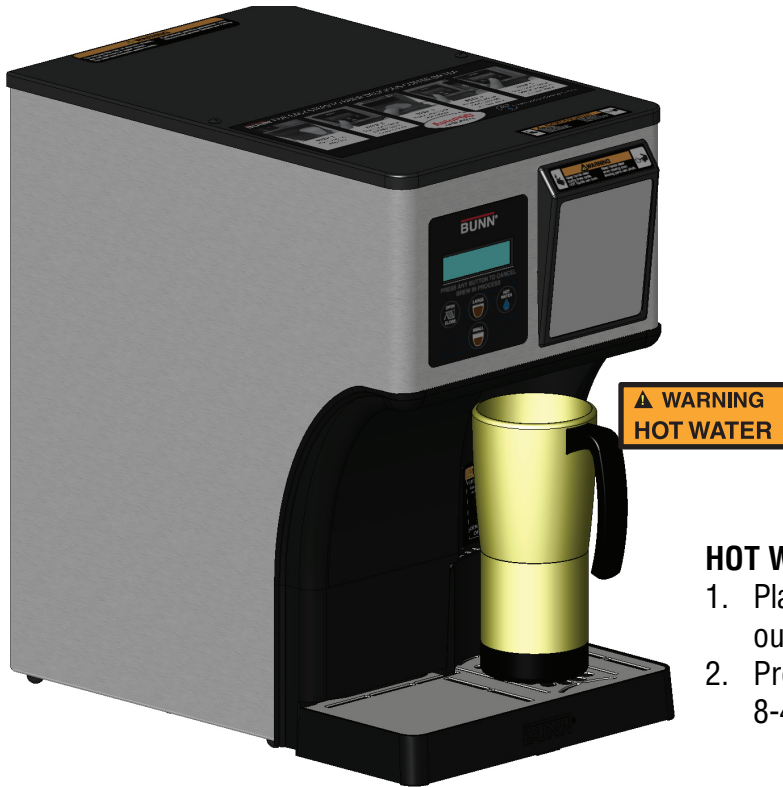
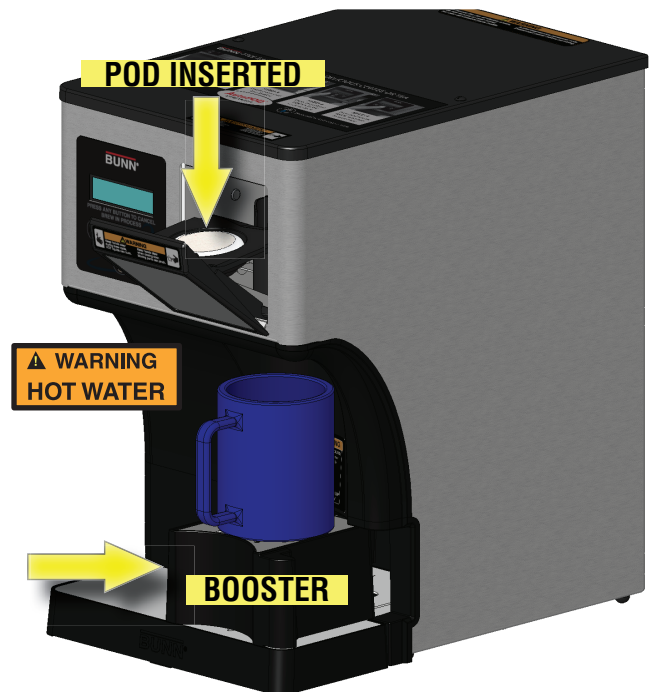

FIG 8-1
FIG 8-3
1. Place cup under brew chamber FIG 8-1. (Slide booster out for small cups) FIG 8-3.